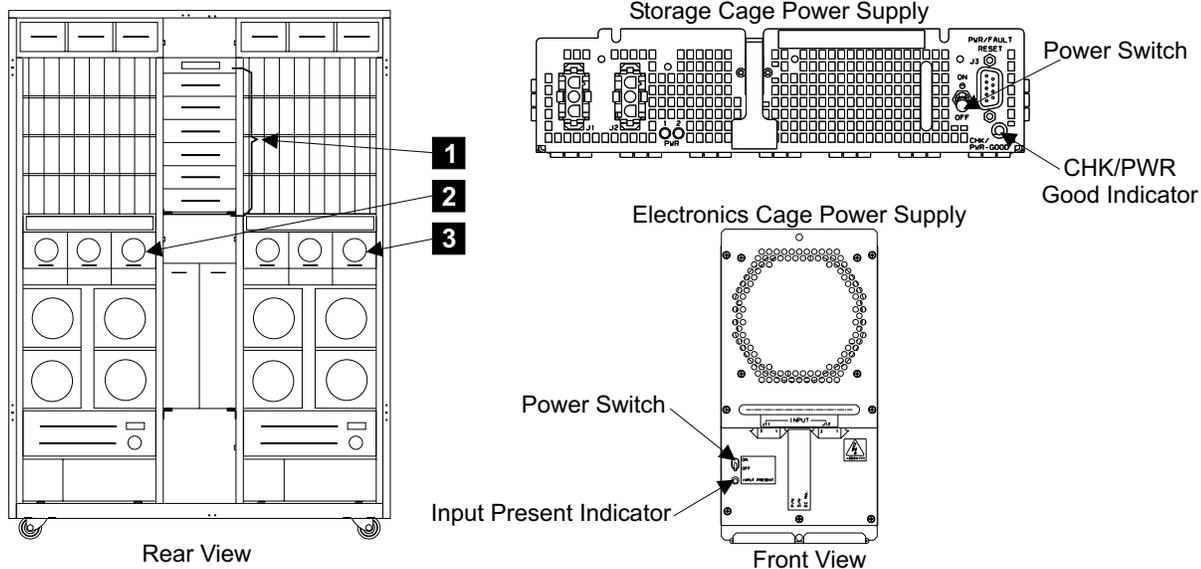

Figure 238. Storage and Electronics Cage Power Supply Indicators (S007637m)
- ___ 10. Go to the rear of the 2105 Model Exx/Fxx. Observe the INPUT PRESENT indicator **2** [Figure 238], on the three left electronics cage power supplies **Perform the action described in table Table 16 on page 230.**
- __ 12. Go to the rear of the 2105 Model Exx/Fxx. Observe the INPUT PRESENT indicator **3** [Figure 238], on the three right electronics cage power supplies. **Perform the action described in table Table 17.**
- ___ 14. Observe the CHK/PWR-GOOD (check/power) indicator **1** [Figure 238], on the installed storage cage power supplies. **Perform the action described in table Table 18.**